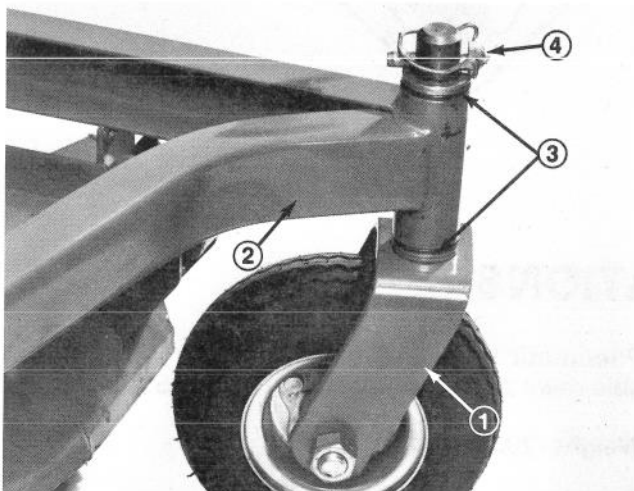

Figure 1
- Place two thrust washers on each castor wheel shaft (Fig. 1).
- Insert shafts into carrier frame. Install two more thrust washers and secure with lynch pins (Fig. 1).